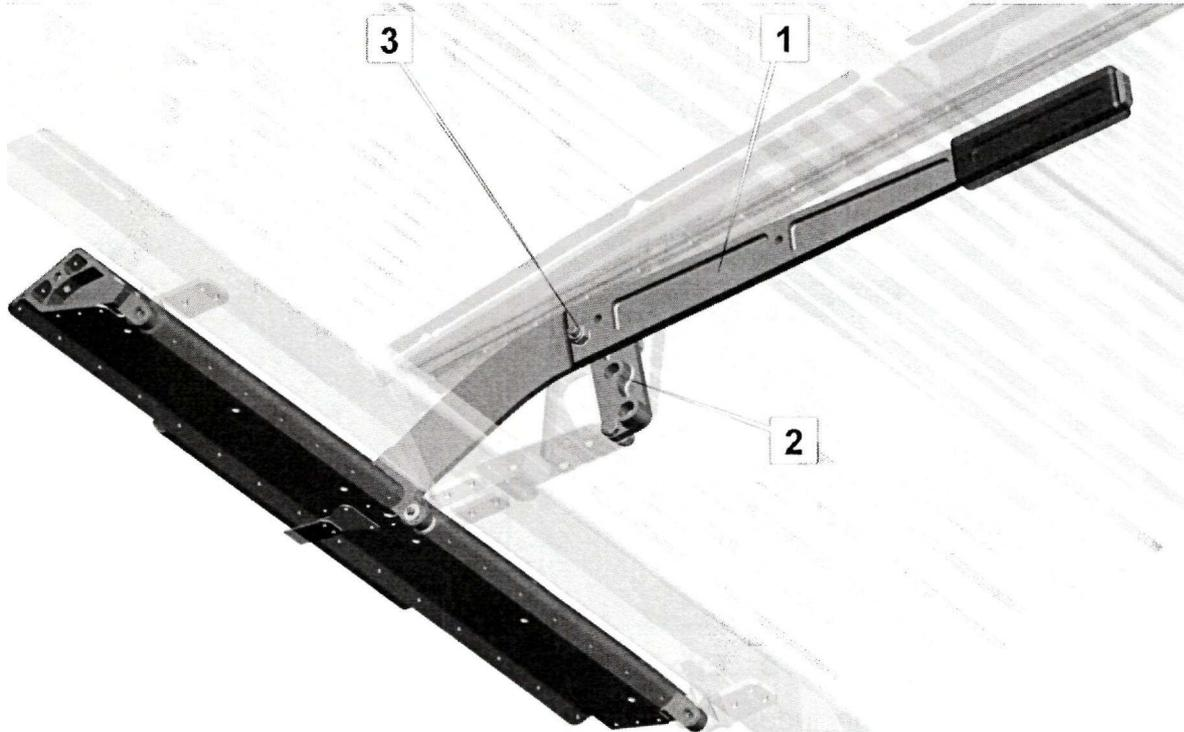

Fig. 8. Flap extension mechanism
The aileron drooping (flap extension) mechanism (**Fig. 8**) consists of a beam with lever (1) hinged to the upper rim of the frame No.3. Flap position setting is achieved with the fixer (2) having three holes for the pin (3) on the lever. Unfixing is achieved by bending the springlike lever to the right. After the pin comes out of the fixer hole the lever can be set to the selected position. When the pin aligns with another hole of the fixer the lever springs back fixing the flaperons in a different position.